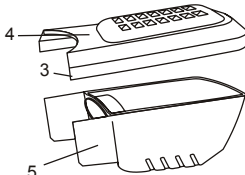

Fig. 3
at the front of the dust box assembly (3) and carefully pry the top of the dust box (4) away from the bottom of the dust box (5) (Fig. 3).